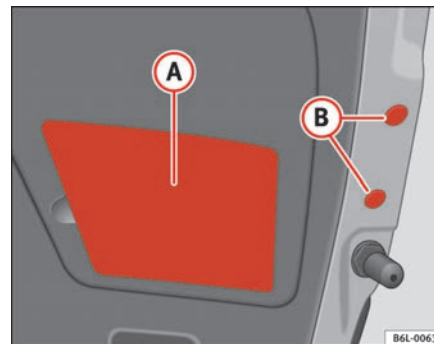

Fig. 161 Rear light on tailgate
- Remove the plastic cover **(A)** ⇒ page 226, fig. 161 and the plastic caps **(B)** ⇒ page 226, fig. 161 carefully levering with the flat part of a screwdriver and taking special care not to scratch the paintwork.